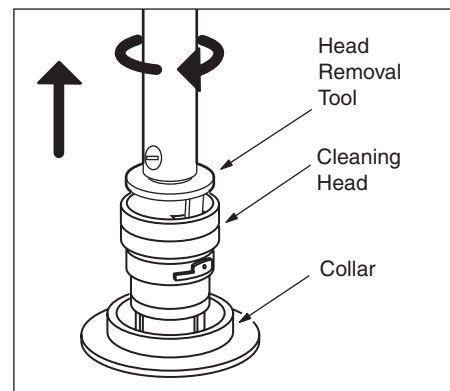

Figure 13. Installing Cleaning Heads
**The cleaning head MUST be in the full down position before removal (see Figure 13).**